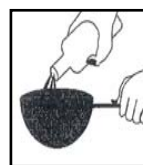

Fig. 8
- Refill the oil reservoir with the oil by pouring the oil through a wire strainer or paper filter. (Fig. 8)